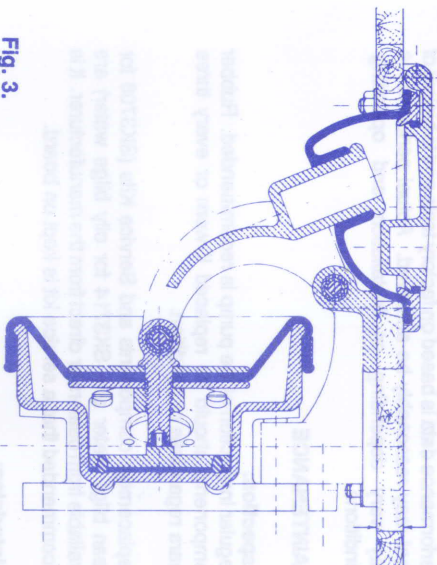

Fig. 3.
- Using template mark off the 6 holes for the mounting and cut out the hole for the pump handle. Round off top edge of large hole as shown in fig. 3.